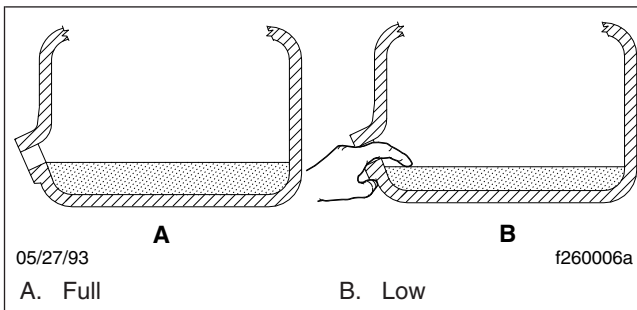

Fig. 1, Checking Transmission Fluid Level
6. Add fluid until it is level with the lower edge of the fill opening. See Fig. 1. If the transmission has two fill openings, add fluid to the level of both openings. See Table 1 for approved transmission lubricants. See Table 2 for Eaton®